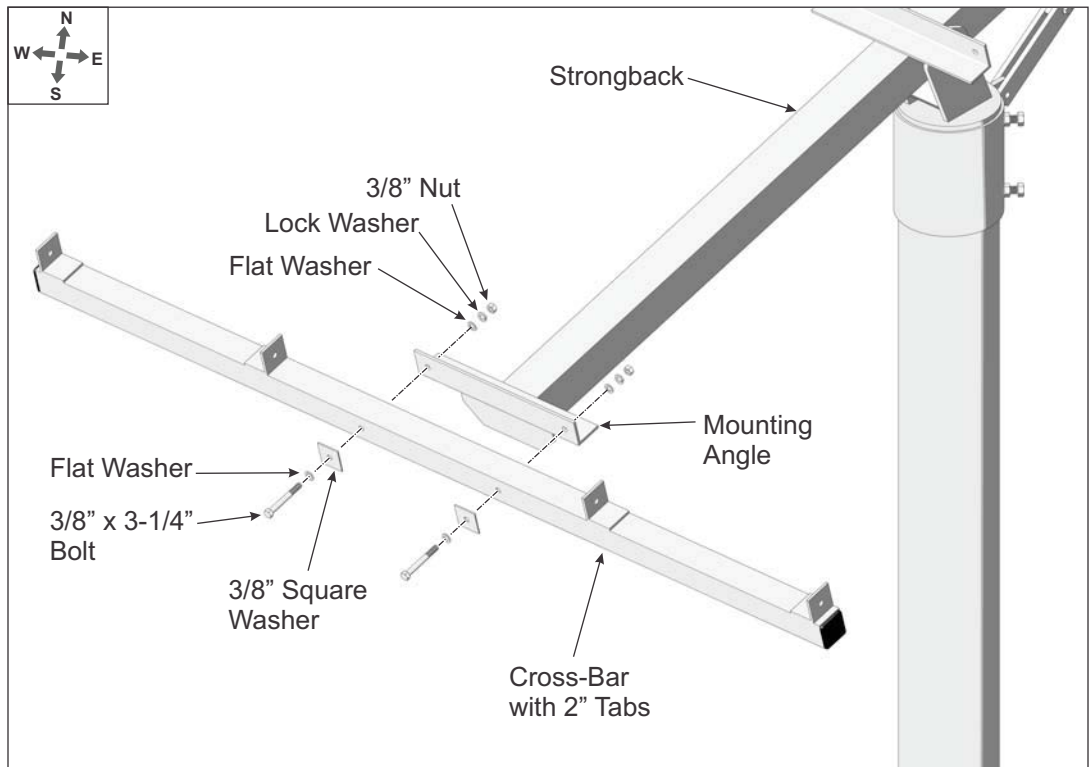

Figure 3-3: Installing Cross-Bars on the Strongback
- B. Position the Cross-Bar on the outside of the mounting angle of the Strongback. Align the mounting holes and secure using 3/8” flat and square washers along with the 3/8” x 3-1/4” bolts and lock washer placing the square flat washer against the Cross-Bar. Tighten hardware and **Torque to 30-32 ft.-lbs.** (See Figure 3-3)